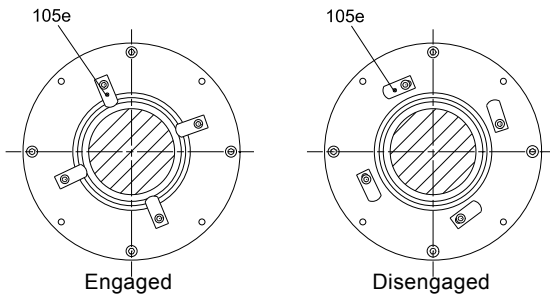

Fig. 90 Shaft seal locks
3. Loosen the screw (pos. 105f) and engage the shaft seal locks (pos. 105e). Then tighten the screw (pos. 105f) again. See fig. 90.
4. Loosen the set screws (pos. 104b).
5. Loosen and remove the screws (pos. 105d).
6. Mount the screws (pos. 105d) in the dismantling threads placed next to the normal position of the screws (pos. 105d). See fig. 90. Tighten the screws equally until shaft seal is loose.
7. Remove the shaft seal (pos. 105).
2. Loosen the screw (pos. 26a) and remove the water chamber (pos. 77).
3. Pull off intermediate ring (pos. 110).
4. Gently pull and remove the seal ring (pos. 104).
5. Loosen the screw (pos. 105f) and engage the shaft seal locks (pos. 105e). Then tighten the screw (pos. 105f) again. See fig. 90.